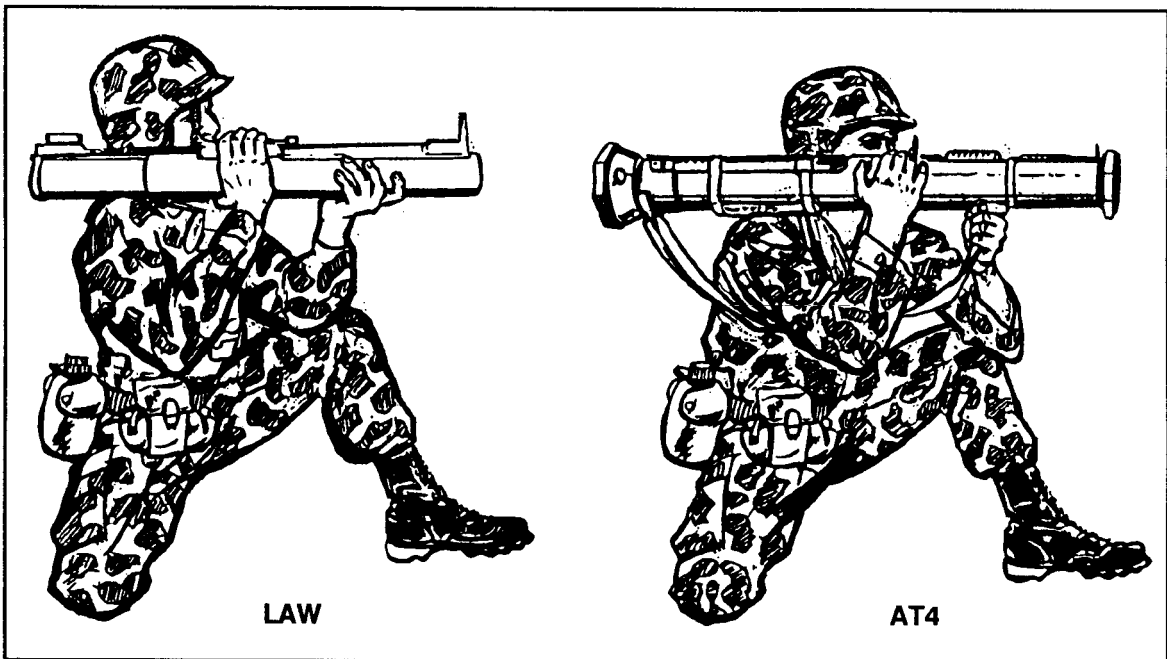

Figure 5-5. Modified kneeling positions.
b. **Modified Kneeling Position.** From the basic kneeling position, sit back on your right heel. Place the back of your upper left arm on your left knee, making sure you do not have bone-to-bone contact between your left elbow and left knee. Keep your right elbow tucked in close to your right side. Use any protective barriers available. Figure 5-5, page 5-4 shows the modified kneeling positions for the LAW and AT4.